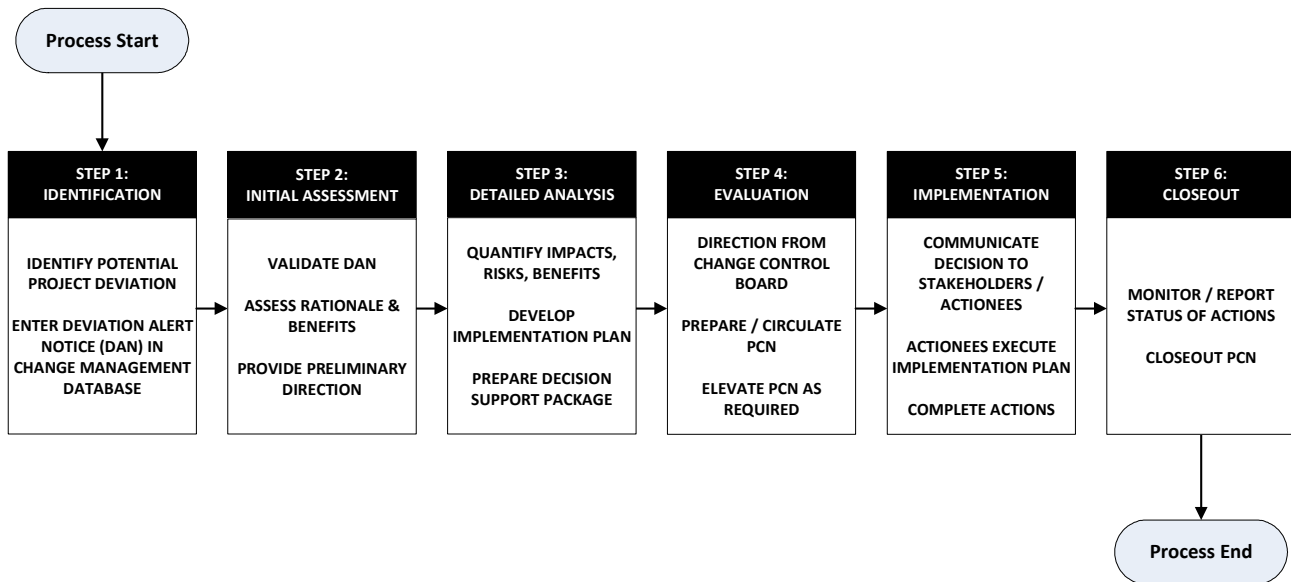

Figure 3: High Level Change Management Process Flow
Figure 3 below provides a high level summary of the change management process that has been developed for the Lower Churchill Project, Phase I comprising the six (6) distinct steps while Attachment 2 describes an overview of the Change Management process with respect to some of the typical inputs / outputs and categorizations..